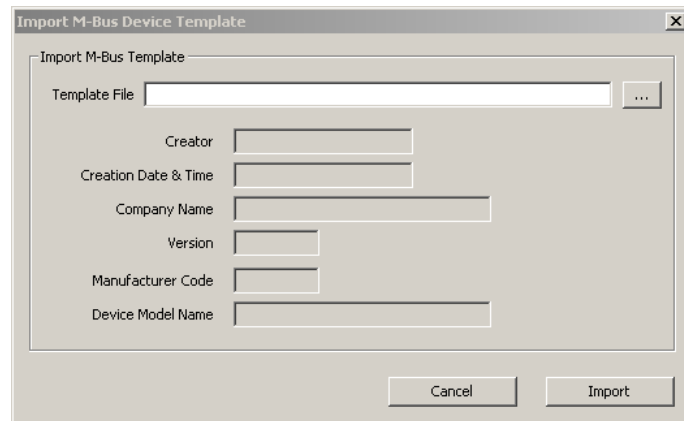

Figure 258: Import M-Bus Device dialog.
3. Click on the **Create From Template** button. This opens the **Import M-Bus Device Template** dialog shown in Figure 258.